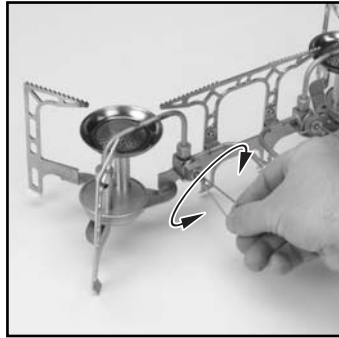

FIG. 30
- Turn the second flame adjuster back and forth several times to clean generator tip (Fig. 30).
- After 60 seconds, pump an additional 40 strokes. Flame may be adjusted to desired heat with FLAME ADJUSTER. Turn flame adjuster back and forth several times to clean generator tip (Fig. 30).